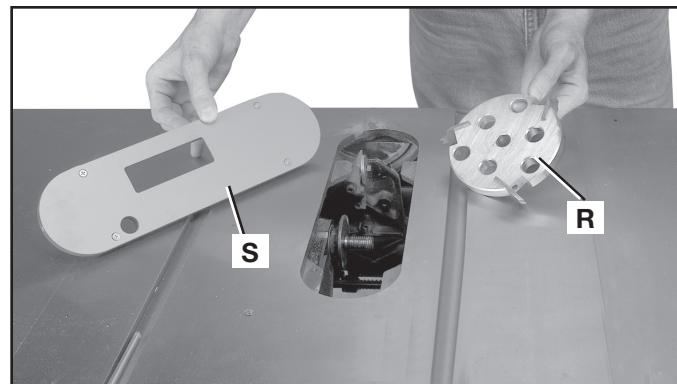

FIG. 70
WARNING: Never use a molding cutterhead (R) Fig. 70 in a bevel position. Always use the proper molding cutterhead throat plate (S).
1. You can easily attach a molding cutterhead (R) Fig. 70 to the saw arbor. Also, you must use the accessory molding cutterhead throat plate (S) in place of the standard throat plate. Be sure the throat plate is level to the table before you proceed.